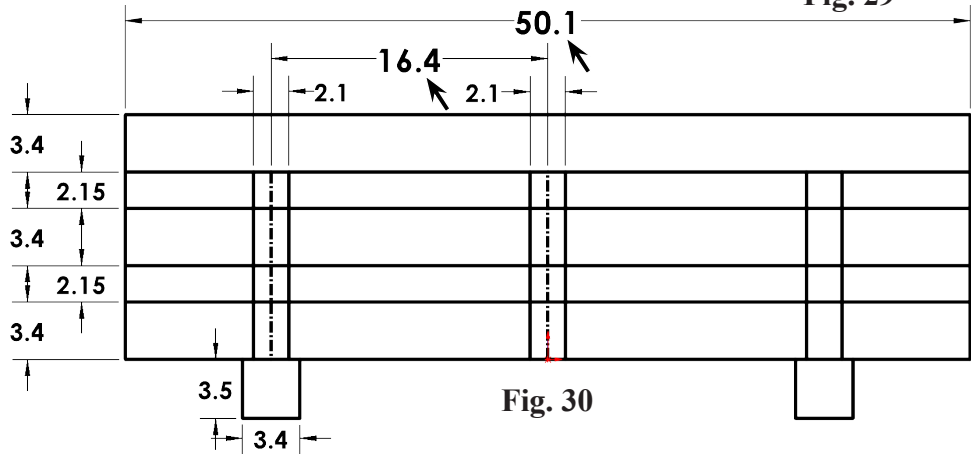

Fig. 30
Step 3. Change width dimension 40.1 to **50.1** and 14 to **16.4**, **Fig. 30**.